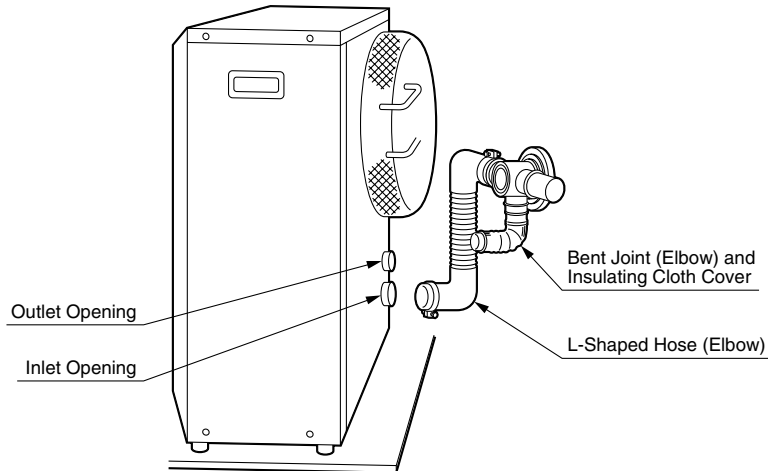

Fig. 11
- d) If necessary, shorten the rubber Air Inlet hose to suit the distance between the rubber "Elbows", the Balanced Flue Pipe and the heater. Fit the rubber "Elbows" to the air inlet hose, the Balanced Flue Pipe and the heater "inlet opening" (See Fig. 11). Secure rubber elbows to heater and Balanced Flue Pipe with Hose Clamps. Use the rubber cap to seal the unused air intake "port" on the Balanced Flue Pipe.
9. Move the heater into position (with drip tray under). Connect the bent joint (Stainless Steel Elbow), to the exhaust "Outlet Opening" of the heater (the exhaust outlet is the higher of the two 42mm diameter pipes which exit at the back of the heater (See Fig. 11), and secure with the "U" shaped "pipe stopper". (See Fig. 12 and Page 18). Spread the Insulating Cloth Cover over the full length of the exhaust "Bent Joint" (Elbow), so that it entirely covers and insulates the Elbow and the pipe stopper at the Balanced Flue Pipe end of the "Bent Joint".